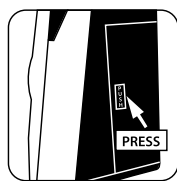

FIG. 3
6. Press the "push" label on lubricant door to open (Fig. 3).